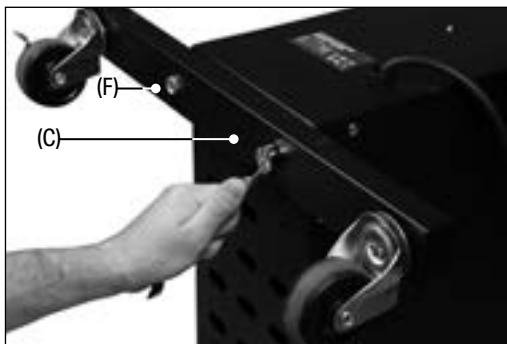

Fig. 1
1. Attach the two wheel frames to the heater unit (Fig. 1).
- a. Lay the heater on its side so that the power cable and power switch (1) are facing upward.
- b. Position the wheel frames (C) against the base of the heater so that the holes align.
- c. Screw the 14mm x 40mm hex bolts (F) through the wheel frames and into the heater base.